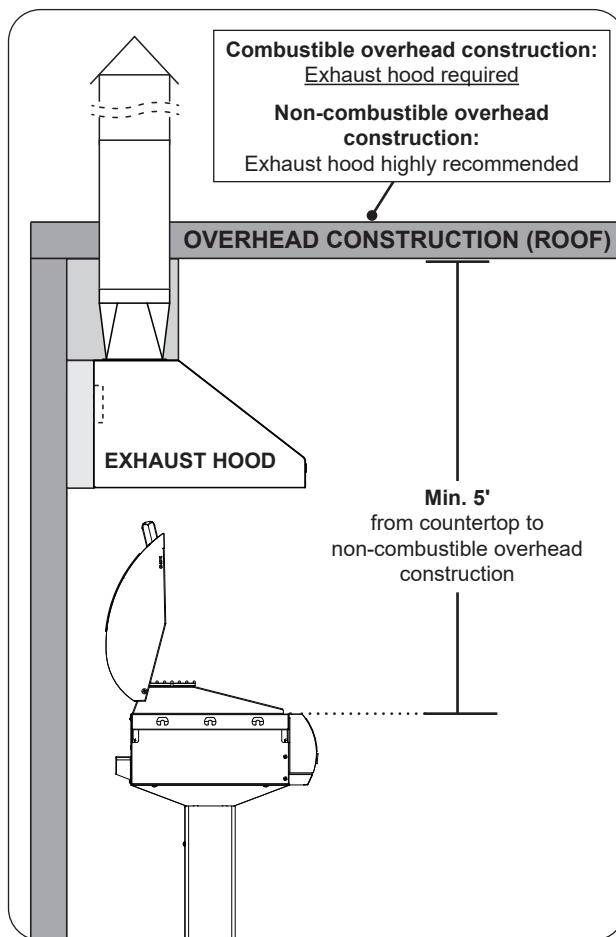

Fig. 10-1 Overhead (roof) requirements
- **An exhaust hood is required.** A minimum 5 foot clearance is required between the cooking surface and the overhead construction. (No combustible materials are allowed within this area.) See Fig. 10-1.
- An exhaust hood is highly recommended. A minimum 5 foot clearance is required between the cooking surface and the overhead construction. (No combustible materials are allowed within this area.) See Fig. 10-1.